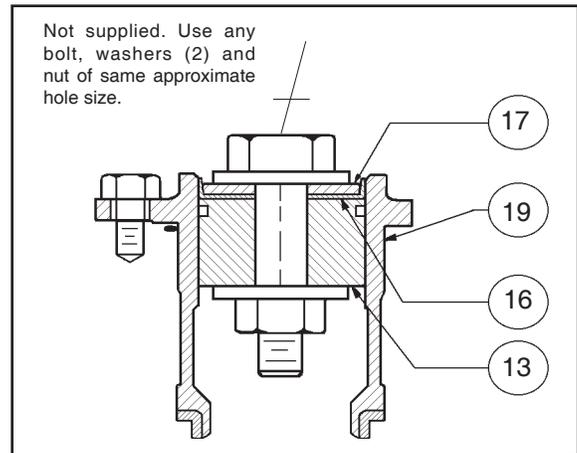

Figure 4
1. When replacing the wiper seal (16), the wiper seal (16) should be “performed” from the factory. It will, however, require reforming. Reform the wiper seal (16) by pressing the temporary assembly parts into the cage (19) backwards as shown in Figure 4 (only applicable to composition diaphragm design). The wiper seal (16) is best left in this position overnight, but a minimum of 30 minutes prior to reassembly. Soaking in a bucket of hot water will speed up the reforming process.
2. After reforming the wiper seal, remove parts (13, 16, 17) from cage (19) and disassemble the temporary assembly of Step 1. above.